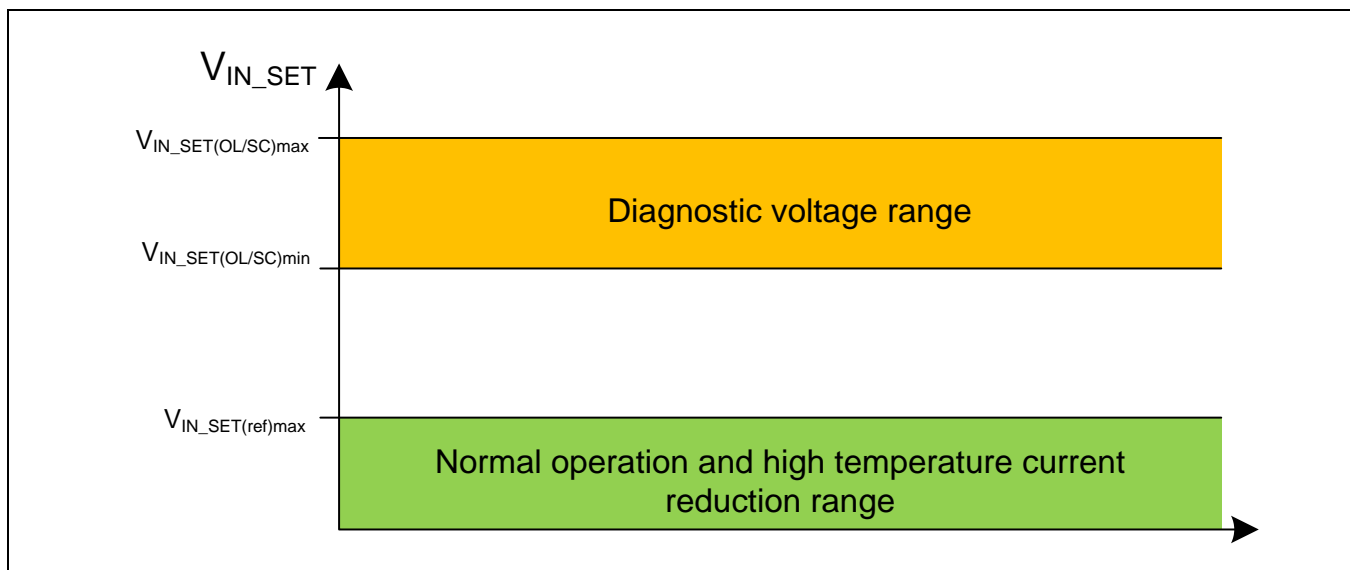

Figure 17 Voltage domains for IN_SET pin on devices with FB pin
- The IN_SET pin has 2 voltage domains, one for setting the current level and one for the diagnosis. This is shown in Figure 17. So the IN_SET pin will go to a high level state when a fault is present.